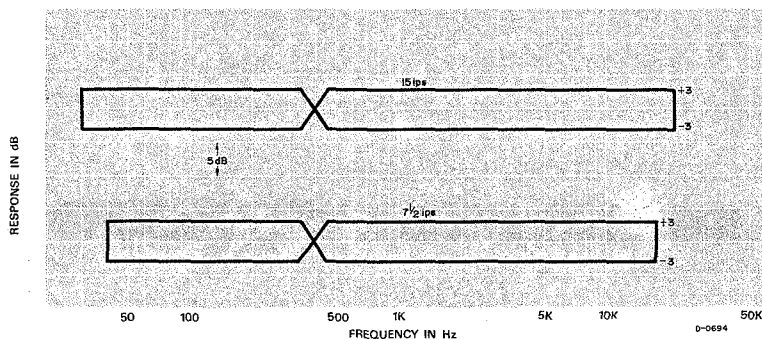

Fig. 8-1 Frequency Response
6. Compare the readings obtained on the level meter with the response limits given in figure 8-1